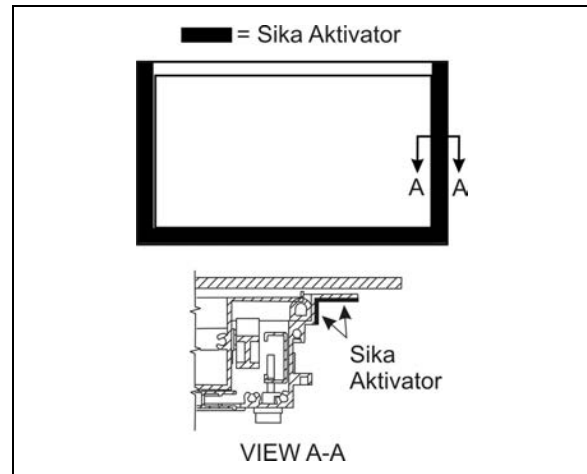

FIGURE 65 : AWNING WINDOW – SIK A AKTIVATOR
6. Apply Sika Aktivator as per FIGURE 65.